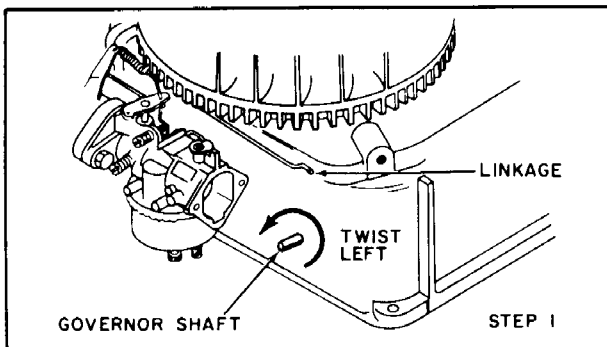

Figure 5-2
5. Tighten screw when no end play exists in direction of open throttle. (See Figures 5-2 and 5-3)